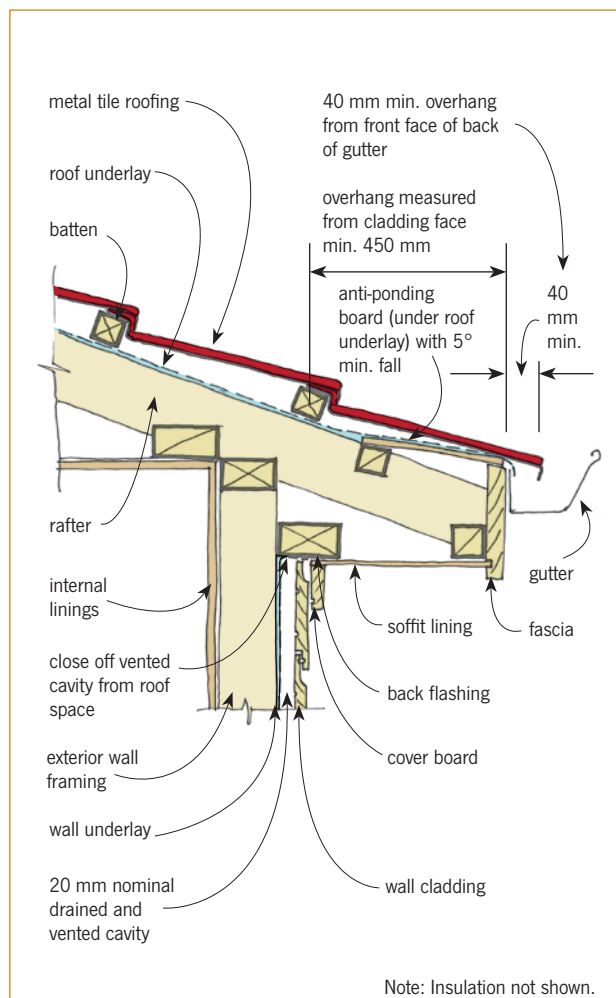

Figure 1. Eaves overhang – timber fascia.
4.0.2 Figures 1–9 are reproduced from BRANZ *Weathertight Solutions Volume 5*.
5.0.4 At the eaves, the underlay must finish over the fascia board to allow any water on it to drain into the spouting. While not commonly done, adding an anti-ponding board will ensure that any liquid water on the roof underlay will not cause it to sag and prevent the drainage of the water into the gutter (Figure 1).